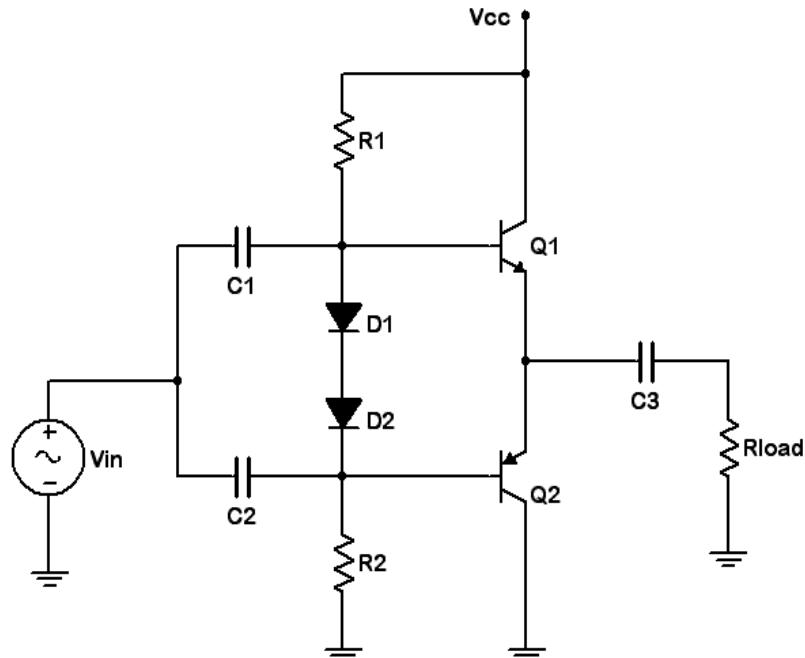
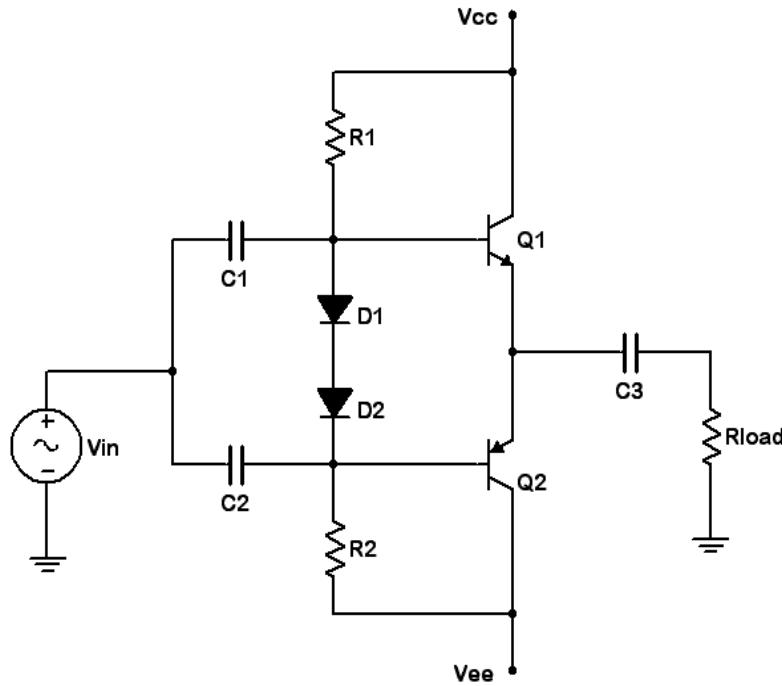

Figure 2
Figure 3
- Replace R3 and R4 with switching diodes, as shown in Figure 2. Repeat steps 2 through 4 using this circuit and Table 2. Overall, the superior matching of the diodes to the transistors should result in decreased notch distortion.
- Add the negative power supply so that the circuit now appears as Figure 3. Set the power supplies to ± 6 volts DC. This should produce similar bias and amplification results to the single 12 volt supply circuit of Figure 2. Although the output coupling capacitor is no longer needed (one advantage of the dual supply topology), leave it in for safety sake.